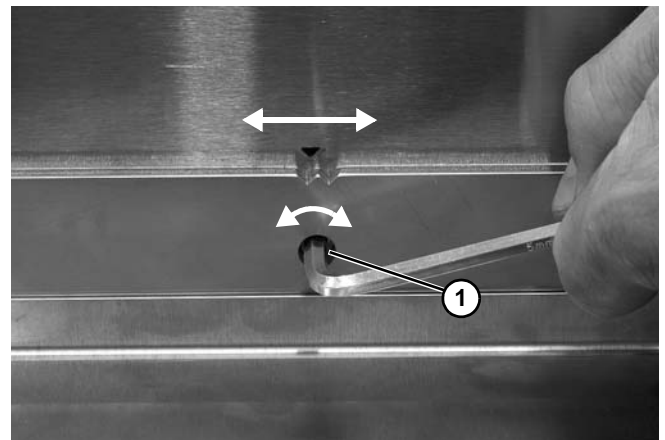

Figure 70
3. Rotate the tracking cam (**Figure 70, item 1**) left or right in small increments. After each adjustment, watch the belt as it exits the center drive. Continue to rotate the tracking cam until the conveyor belt is tracking normally.